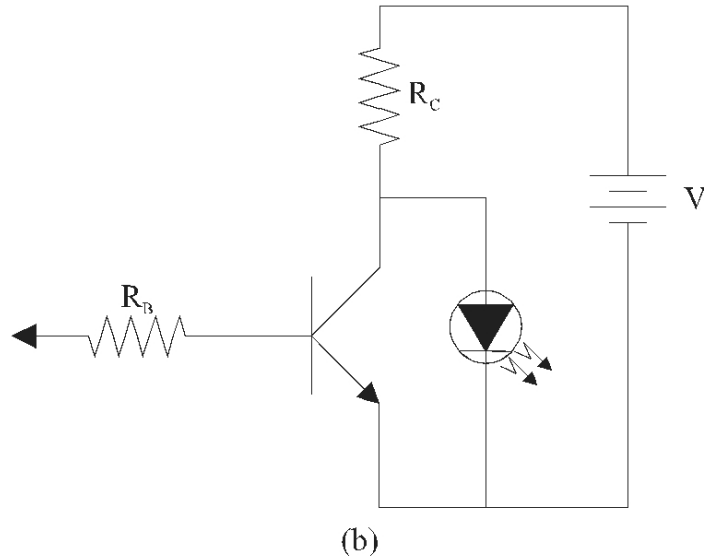

Figure 7-6-1. Circuits to verify transistor operation as a switch.
1. Mount the circuit shown in figures 7.6.1(a) and 7.6.1(b).